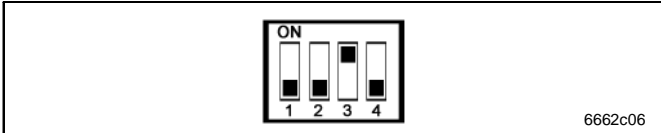

Fig. 34 DIP switch:
- ➔ After that, switch SW4 back to OFF (Fig. 34).